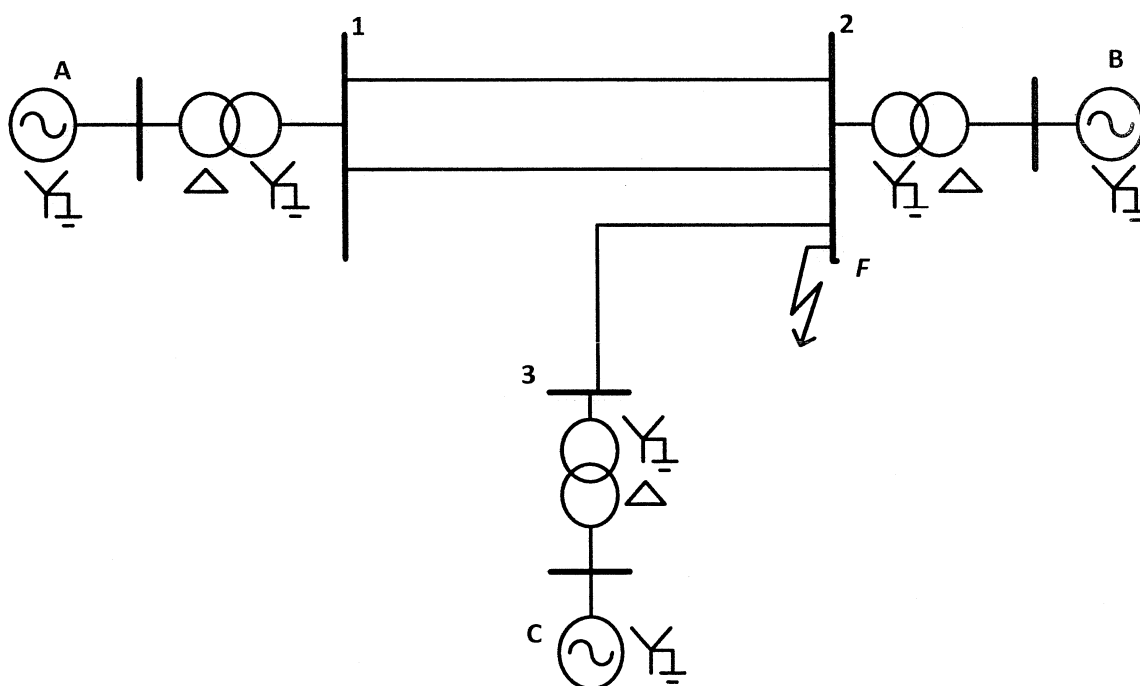

Figure Q6
- Q6.** A single line diagram of a certain power system is shown in Figure Q6. Reactances of the elements are given to a common base values as indicated in the Table Q6. The generators A, B and C generates their voltage at 1.0 p.u. on common base.
- I. Draw positive, Negative and Zero sequence networks for the Figure Q6 [12]